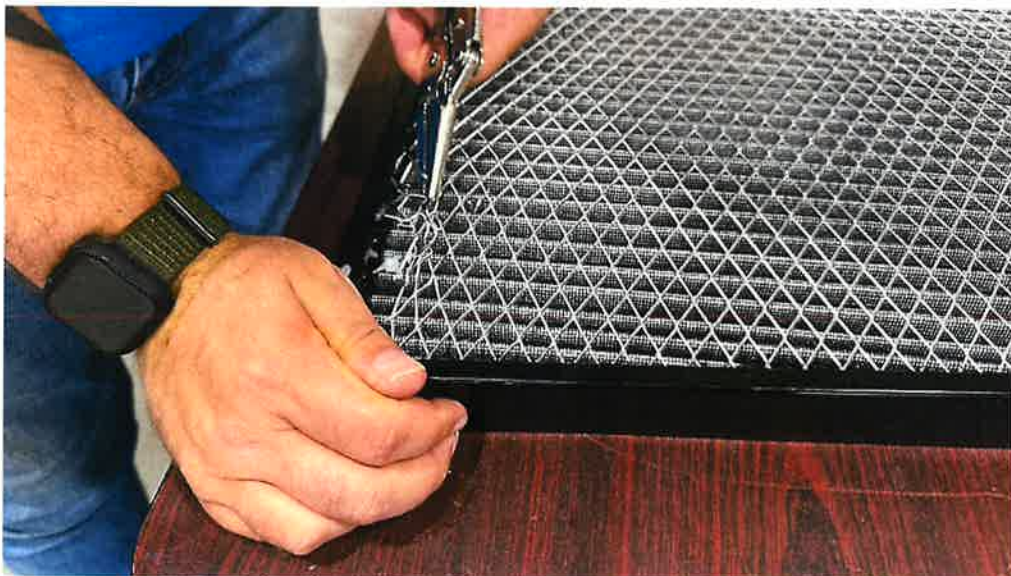

Figure 5b
2. Using pliers or a similar tool, carefully pull at one corner of the metal screen until that portion of the metal screen separates from the air barrier filter. (Reference Figure 5b)